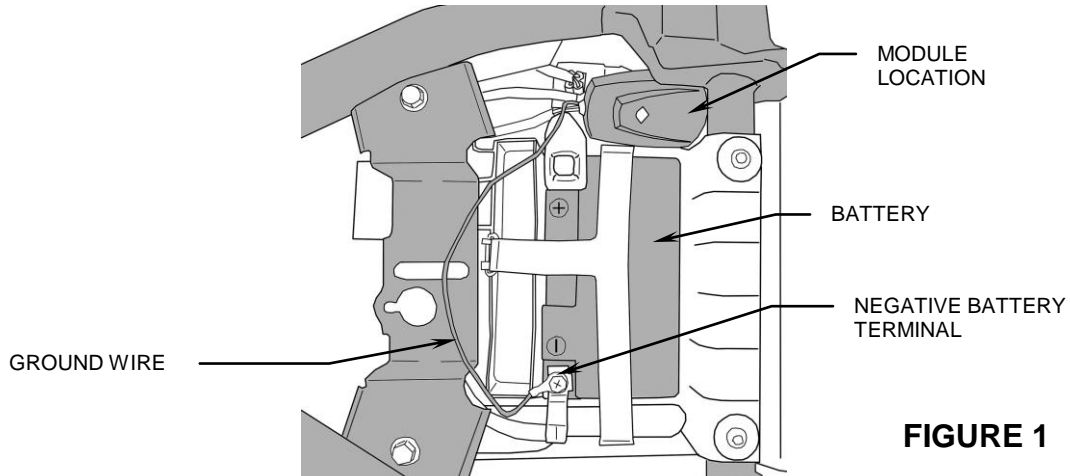

FIGURE 1
2. Position the Fi2000 module in the designated area under the seat, see Figure 1. Then feed the Fi2000 harness with the injector connectors forward until reaching the intake manifold area.
5. Velcro the Fi2000 module to the top of the white fuse box, see Figure 1. Attach the ground wire from the Fi2000 to the negative post. Before reinstalling the seat, verify connections.